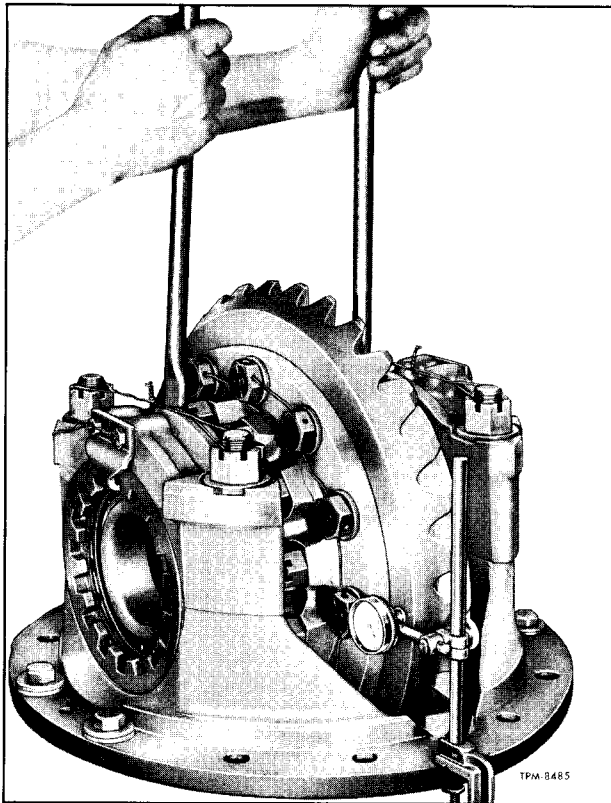

Figure 12—Differential Bearing Preload Check
1. Using dial indicator at back face of drive gear (1) as shown in figure 12, loosen bearing adjusting ring (8) on flanged side enough to notice end play on dial indicator.
3. Tighten both adjusting rings (8) one notch each from zero end play position to impose correct preload on differential side bearings.